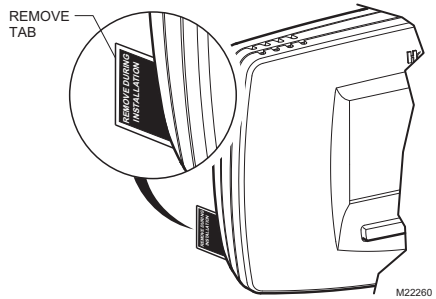

Fig. 22. Remove tab labeled REMOVE from thermostat back.
2. Locate and remove the tab labeled Remove. See Fig. 22.